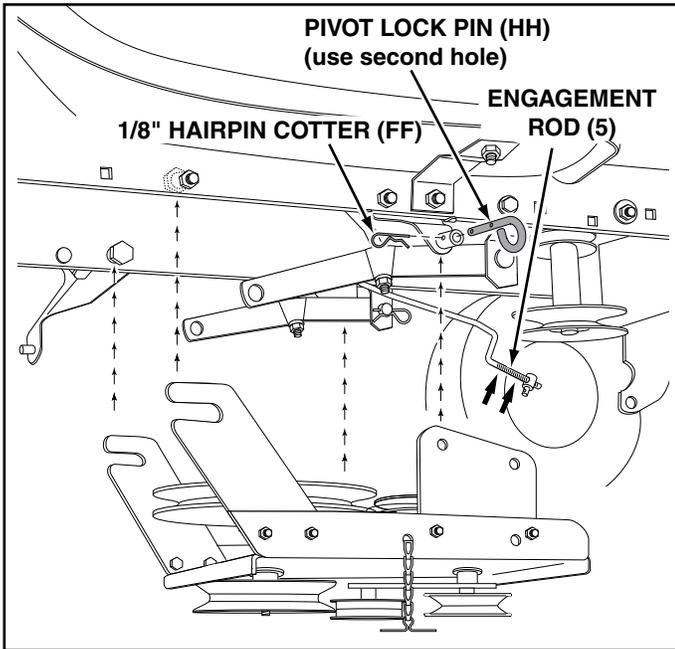

FIGURE 32 **RIGHT SIDE VIEW**
STEP 32: (SEE FIGURE 32)
- Be sure to lift up the front end of the engagement rod (5) as shown when performing the next operation. You can temporarily support the rod using a rubber band tied to the engine pulley keeper.
- Attach the clutch/idler assembly to the tractor frame as follows. Hook the assembly's notched rear pulley frame brackets onto the two shoulder bolts you assembled to the inside of the tractor frame. Lift the front of the assembly and attach it to the R.H. and L.H. hanger brackets using two pivot lock pins (HH) and 1/8" hairpin cotters (FF).